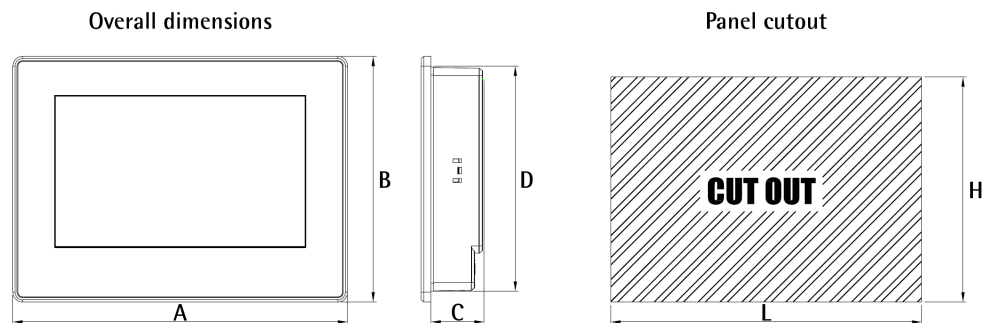
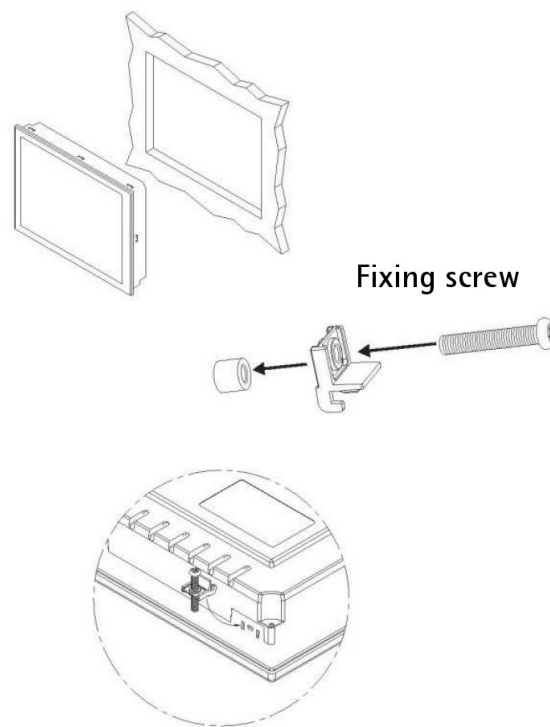

Figure 1 - LDT10 lay-out
Figure 2 - Panel mounting
3.1 Overall dimensions (Figure 1)
3.2 Mounting the panel (Figure 2)
To fix the touch panel cut a rectangular hole in the installation support. Use the dimensions as shown in Figure 1 and in the table above to provide the rectangular mounting cutout. Remove the burrs made while cutting. Mount the panel through the enclosure cutout without the mounting clips. Install the mounting clips at the four corners in the back of the panel (Figure 2) and then tighten the screws until the display is fixed properly.